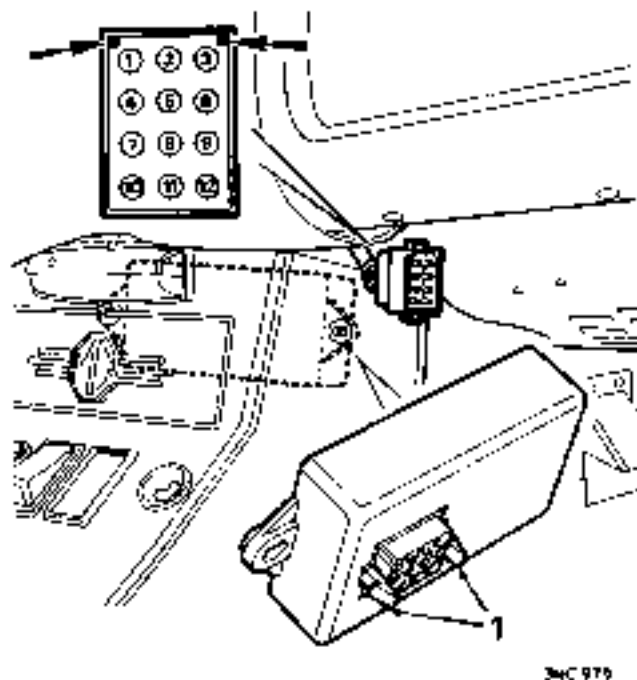

Fig. Na.8
- (1) Batteries in good condition.
- (2) 500 milliamp. line fuse and the 35-amp. fuse connecting fusebox terminals 5 and 6 in good condition
- (3) Gear lever in neutral position.
- (4) Hand brake applied.
- (5) Compress the two retaining tags (see Fig. Na.8) on the front of the seat belt system control unit and disconnect the wiring harness plug from the control unit
Referring to Figs. Na.8 and Na.9 for circuit diagram and wiring harness plug pin identification numbers, carry out the following test procedure, using a 12-volt 22-watt test lamp and a length of insulated cable.